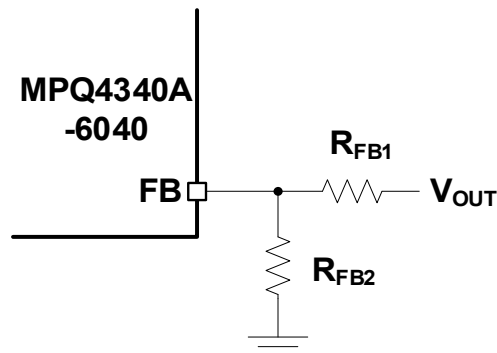

Figure 1: Feedback Divider Network for the Adjustable-Output Version
7. To use the enable (EN) function, apply a digital input to the EN pin. Drive EN above 1V to turn the regulator on; drive EN below 0.85V to turn the regulator off. If the EN function is not used, EN can be connected directly to VIN.
8. The feedback voltage (V_{FB}) is typically 0.6V for the adjustable-output version. The external resistor divider connected to FB sets the output voltage (V_{OUT}) (see Figure 1).